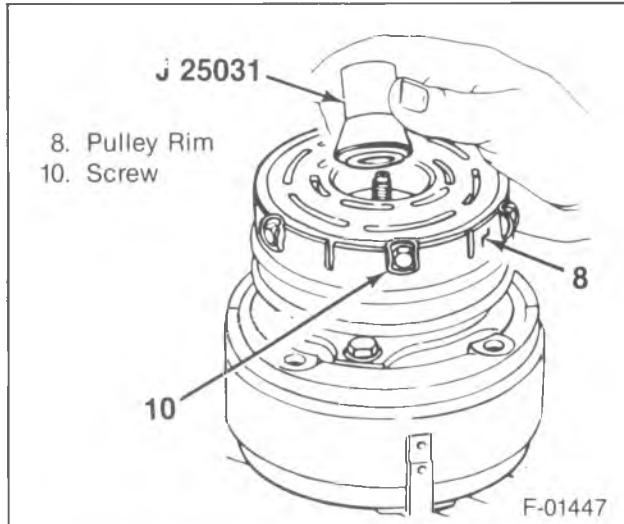
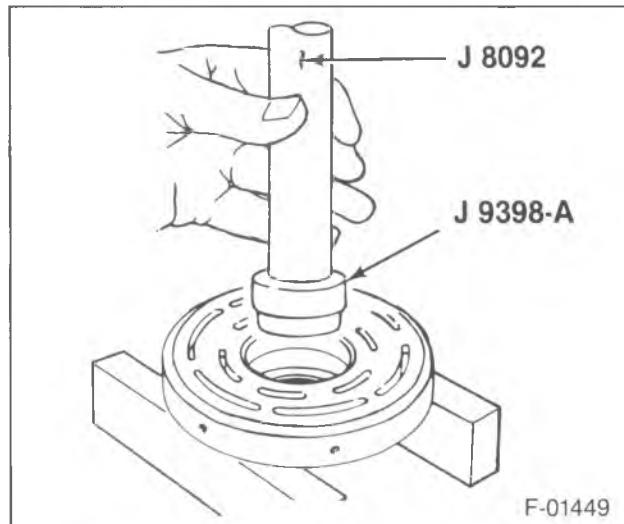

Figure 8—Installing the Rotor and Bearing Guide
Figure 10—Removing the Clutch Rotor Bearing
- If the clutch rotor and/or rotor bearing are to be replaced, bend the washers (9) away from the pulley rim mounting screws (10). Remove the six mounting screws (10) and washers (9).
- Install J 25031 guide over the compressor shaft (22) (figure 8).
- If the pulley rim mounting screws (10) and washers (9) were removed, only the clutch rotor and bearing assembly will be removed for replacement. The clutch coil and housing assembly is pressed into the compressor and will not be removed unless the pulley rim mounting screws are left in place and the pulley rim pulls the coil and housing assembly off with the clutch rotor and pulley rim assembly.
- Bearing (6) from the clutch rotor (5) with J 8092 and J 9398-A (figure 10).
- Rotor (5) and bearing (6) assembly with J 25031 (figure 8).
- Install the J 25031 guide over the shaft (39) end.
- Engage the arms of J 25031 down into the recessed edge of the rotor hub (5).
- Bearing (6) from the rotor hub (5) with J 9398 and J 8092 (figure 10).